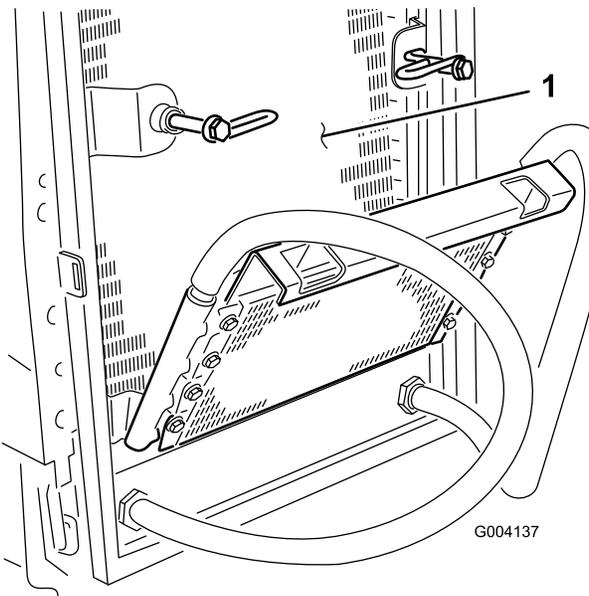

Figure 96
8. Thoroughly clean both sides of the oil cooler and the radiator (Figure 96) with compressed air.